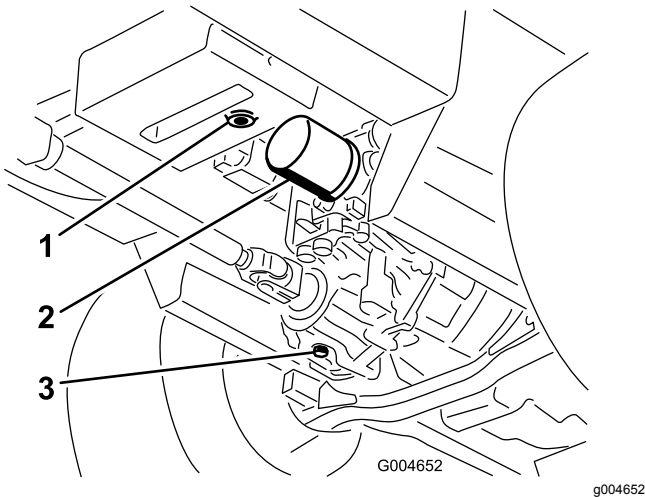

Figure 58
3. Place a large pan under the hydraulic reservoir and transmission case and remove the plugs, draining all of the hydraulic fluid (Figure 58).
4. Clean the area around the hydraulic fluid filter and remove the filter (Figure 58).